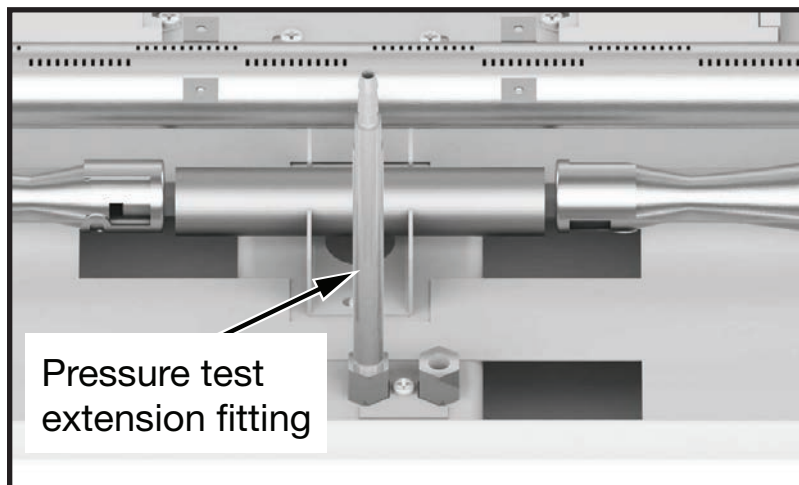

Figure 52: Pressure test extension.
2. Thread the extension test fitting into the open port (Figure 52).